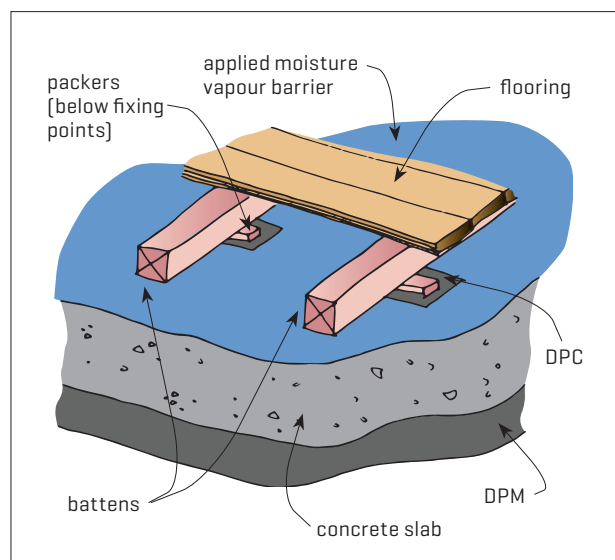

Figure 1. Packers under battens.
- packers under the battens at fixing points [Figure 1]
- Fix minimum 35 x 70 mm kiln-dried timber battens [on the flat] directly onto the concrete using packers under battens [if required and spaced to not exceed the batten spacing], or fix the battens as required to ensure framing is level [see Figure 1].